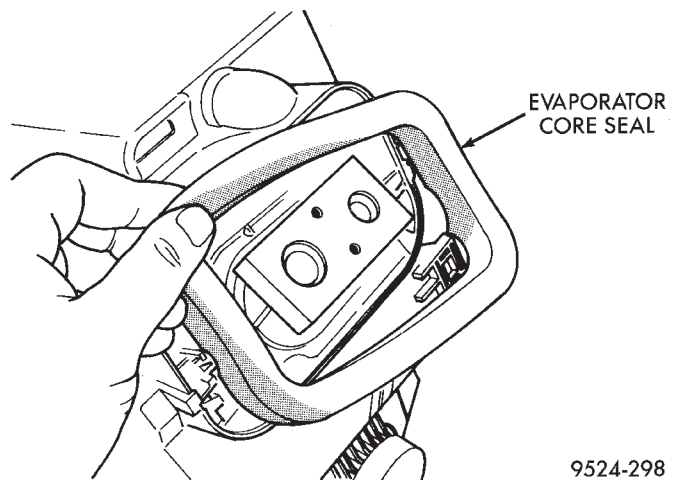

Fig. 89 Evaporator Tube Inlet Seal
- (19) Remove seal around evaporator tube inlet (Fig. 89).